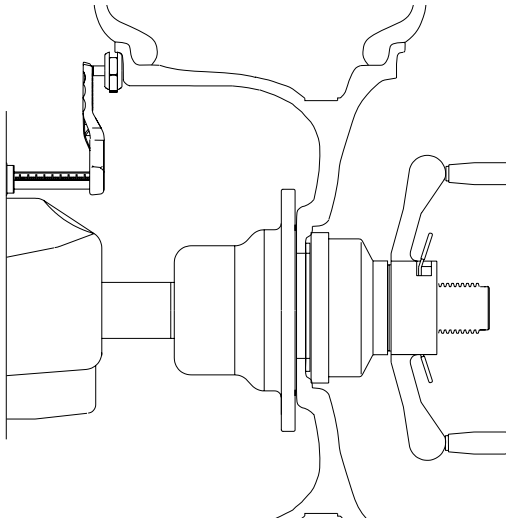

Figure 22
**4.5.1 Rim Distance (offset)** - Move the rim offset arm to the edge of the rim, touch the pointer to the rim edge as illustrated in Figure 22 and hold steady for about a second. The beeper will sound when the distance and diameter values are calculated and entered. Return the arm to its fully in and down position on the balancer. Do not allow the measurement arm to "dangle" down in front of the balancer.